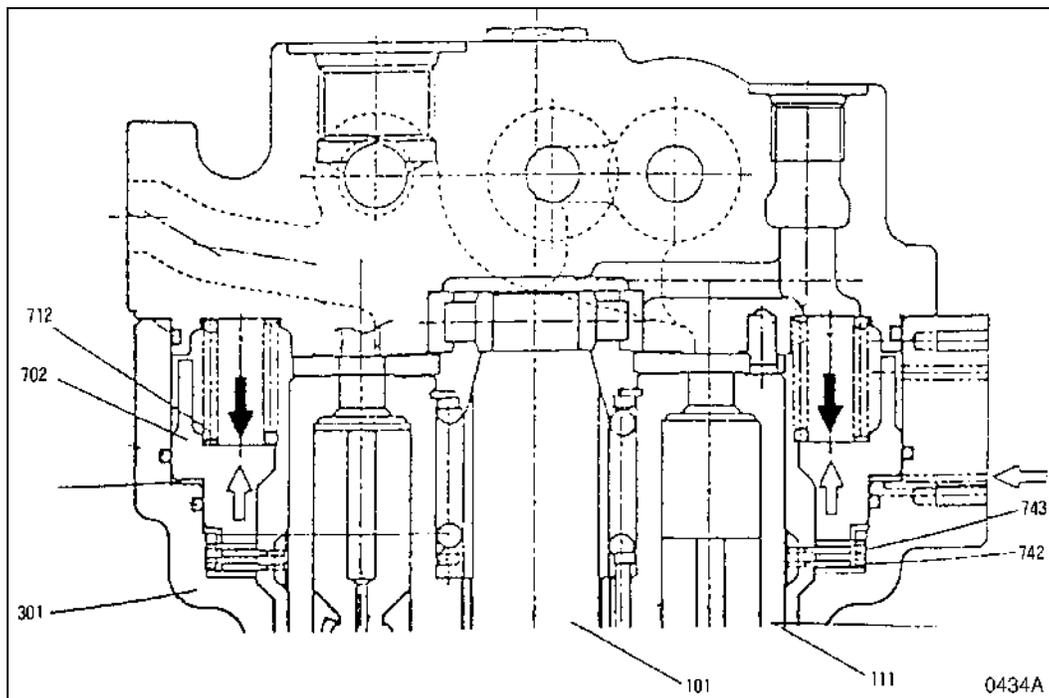

Figure 3
The swing brake is applied when the brake spring (712, Figure 3) locks up the friction plate (742), split plate (743) and swing motor casing (301), preventing the motor drive shaft from turning. When hydraulic pressure is forced to the back side of the brake piston, the friction plate and swing motor casing are separated, releasing the brake.